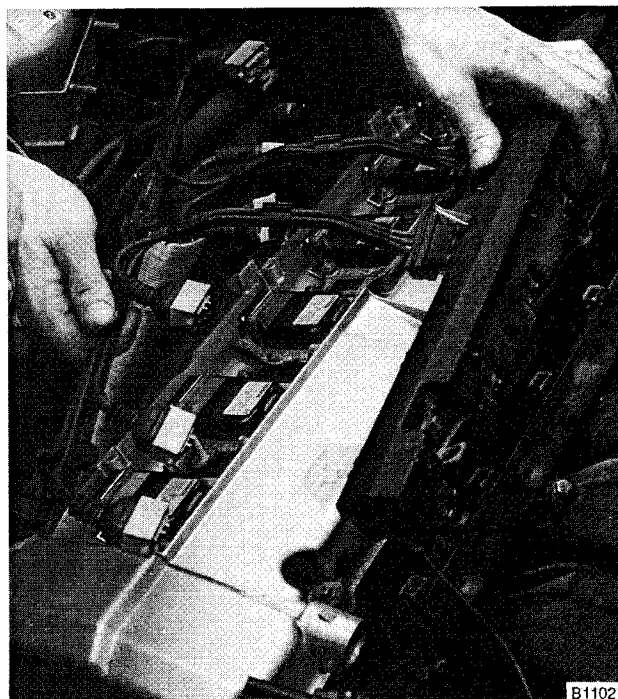

Fig. 7. Remove main harness from top engine and place at base of windshield.
8. Remove top engine covers and disconnect ignition coil harness connectors. Working at fuel injectors, pry open small wire clips at each injector. Remove main harness hold-down nuts and lift complete harness away. See Fig. 7.